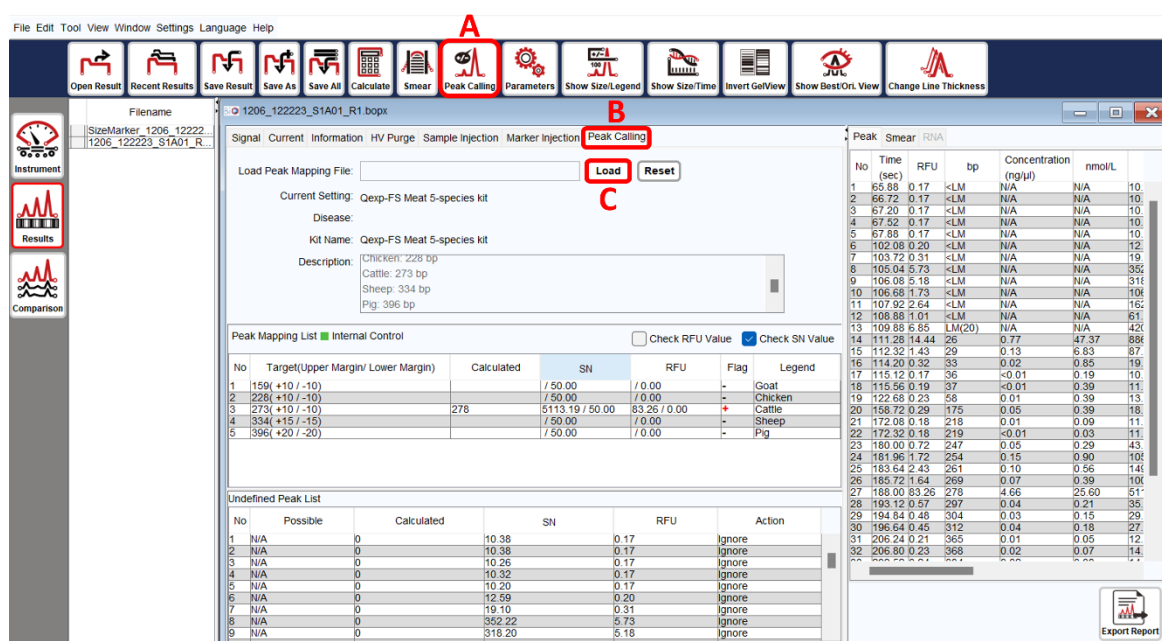

Figure 52 Fragment Size Calculation and Peak Calling Selection
4. Return to the result files, calculate the fragment size, and select the **Peak calling** tab or click **Tool** → **Peak Calling** (Figure 52 A-B).
5. Browse and load the desired Peak Calling Table file (Figure 52 C).